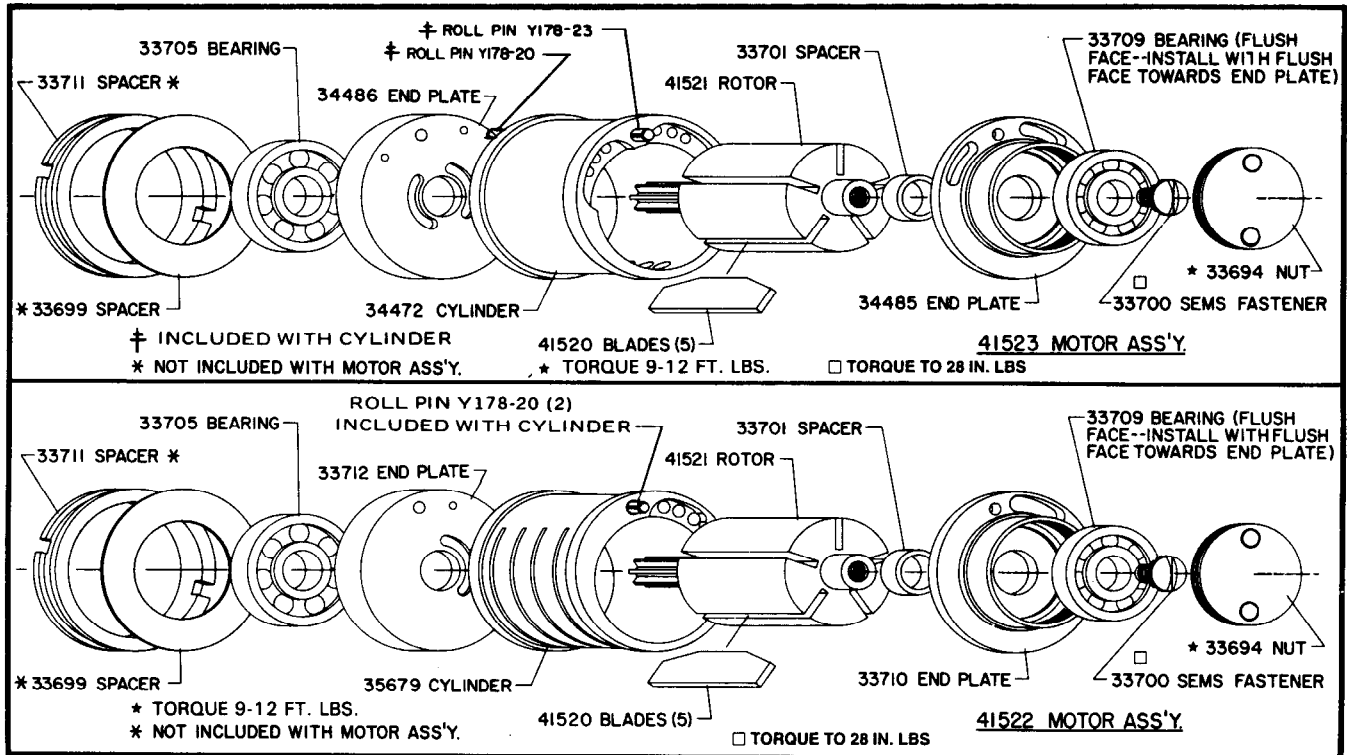

FIGURE 7
- Assemble bearings into end plates, pressing on outer race of bearings. NOTE: Bearing (33709) is a flush face bearing. Assemble into end plate with flush face of bearing towards end plate (lettering on bearing facing away from end plate. See figure 7.